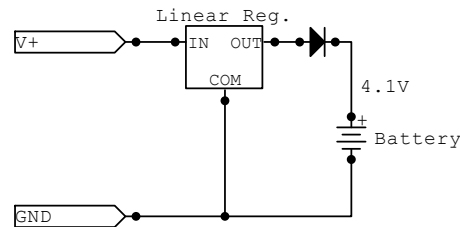
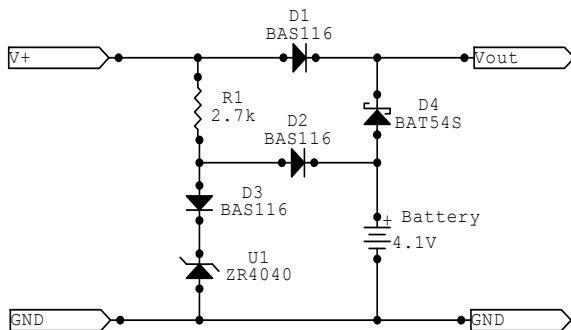

Figure 6. Charging circuit with a linear regulator.
Figure 5. Charging circuit with a voltage reference.
*Figure 5* provides a 4.1V reference to accommodate a wider range of power supply voltages. *Figure 6* uses a linear regulator to achieve the same end.